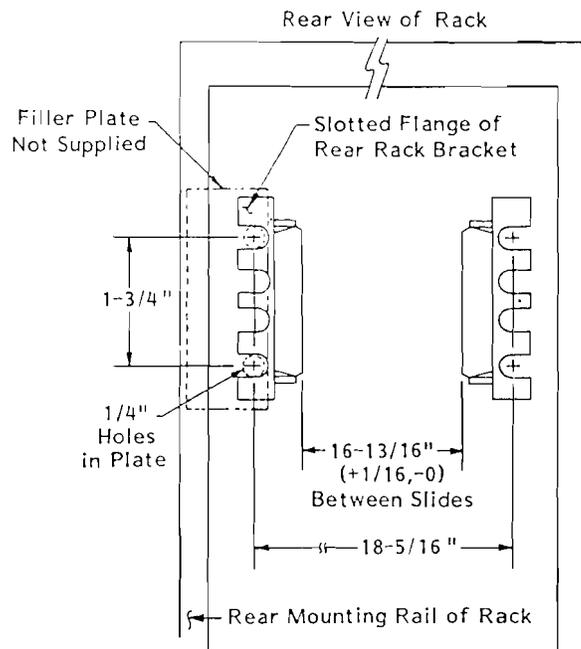

Figure 2-6 Rear End Slide Mount Rack Dimensions
13. The distance between the two slide mount assemblies at the rear bracket should also be set at 16-13/16 inches (+1/16,-0). Should a filler-plate be required to secure the slide mount assembly to the rear rack mounting rail at 16 -13/16 inches (+1/16,-0), use the dimensions given in **Figure 2-6** to determine filler-plate size. The rear rack-bracket may require adjustment to accommodate the thickness of filler-plate.